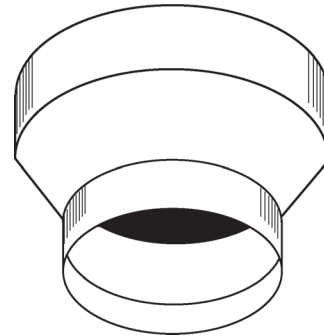

FIGURE 11
The (A)BCG385T500-8* model is shipped with a 6" to 8" diameter vent adapter (Fig. 11). The vent adapter fits on top of the installed blower exhaust. Use only vent adapters supplied with the unit. The venting must comply with the NATIONAL FUEL GAS CODE, ANSI Z223.1/NFPA 54 and for Canadian installations consult the Canadian Installation Code CAN/CSA B149.1-00.